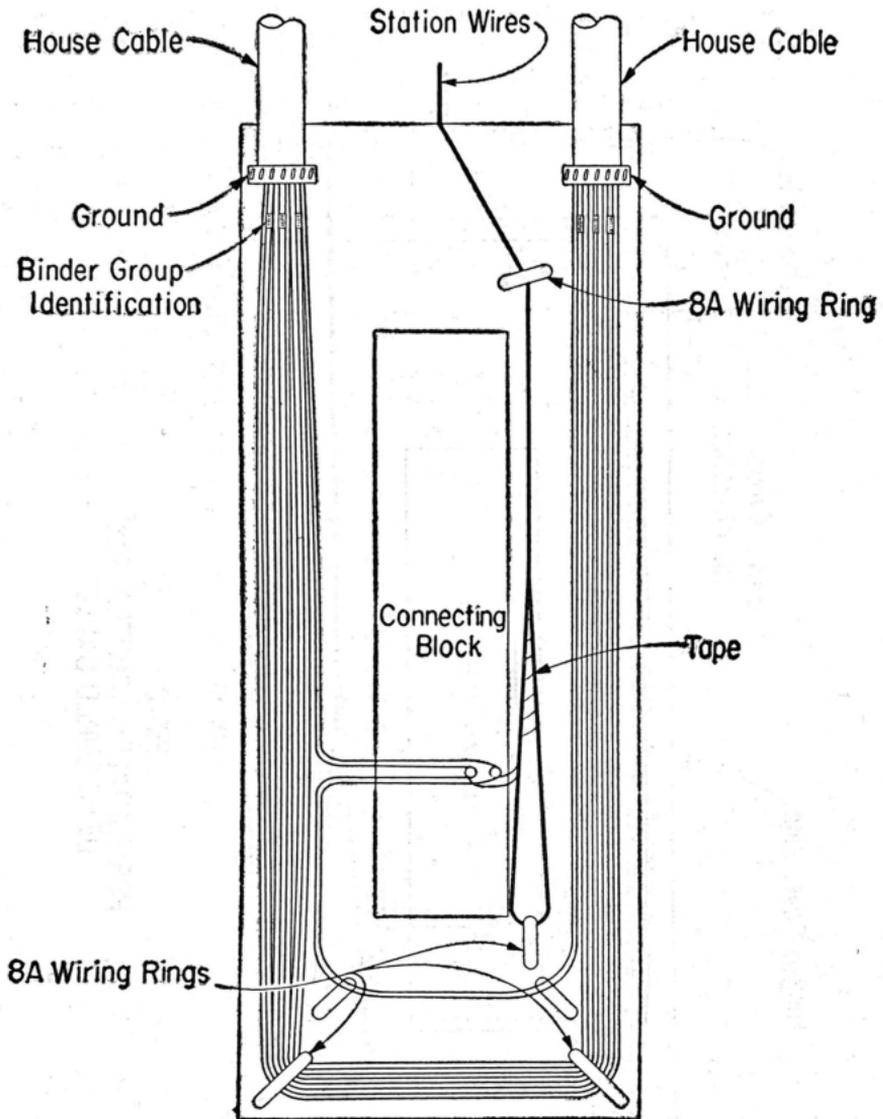

FIG 3
6.07 In the vertically mounted terminal the slack containing the remaining pairs in the cable is looped through the terminal box as shown in Figs. 3 and 4.